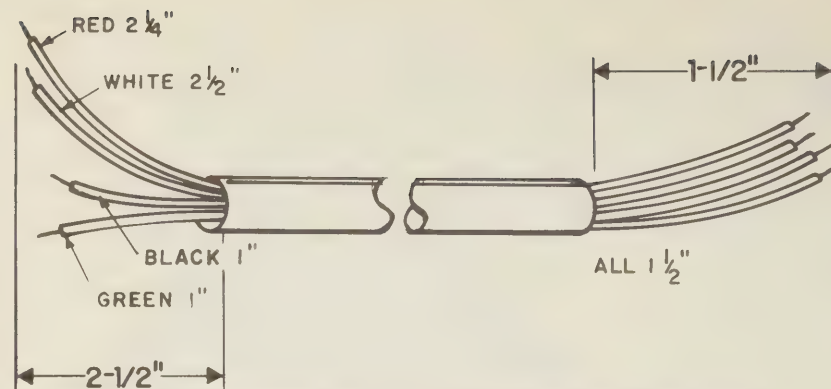

FIGURE 5. PREPARATION OF THE 4-CONDUCTOR CABLE
- ☒ Cut each of the inner conductors to the length specified in Figure 5. Remove $\frac{1}{4}$ " of the insulation from each of the conductors. Twist the stranded ends of these conductors and coat lightly with solder.